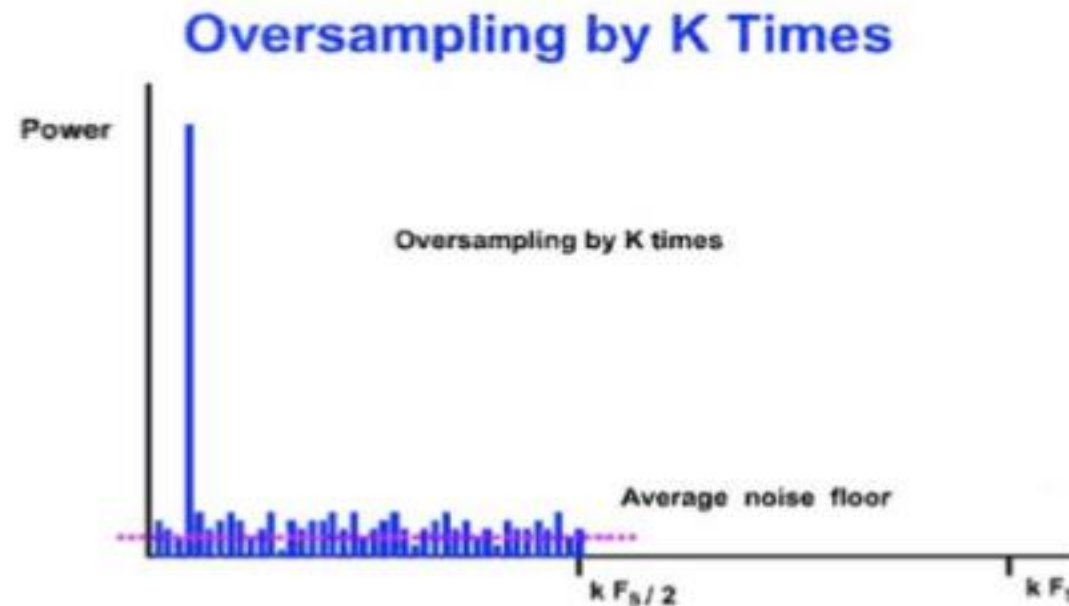

Fig. 14 FFT diagram of a multi-bit ADC with a sampling frequency kF_s
- Consider again the above example, but with a sampling frequency increased by the oversampling ratio k , to kF_s (Fig. 14).